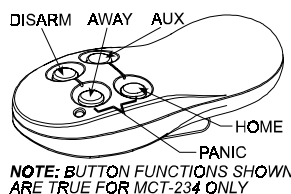

Figure 21. MCT-134 / 104
**C. MCT-134 / MCT-104** (Fig. 21): 4-button hand-held units. MCT-134 (CodeSecure) can replace the MCT-234 keyfob. MCT-104 (PowerCode) can perform emergency and non-alarm functions. Both units look alike.